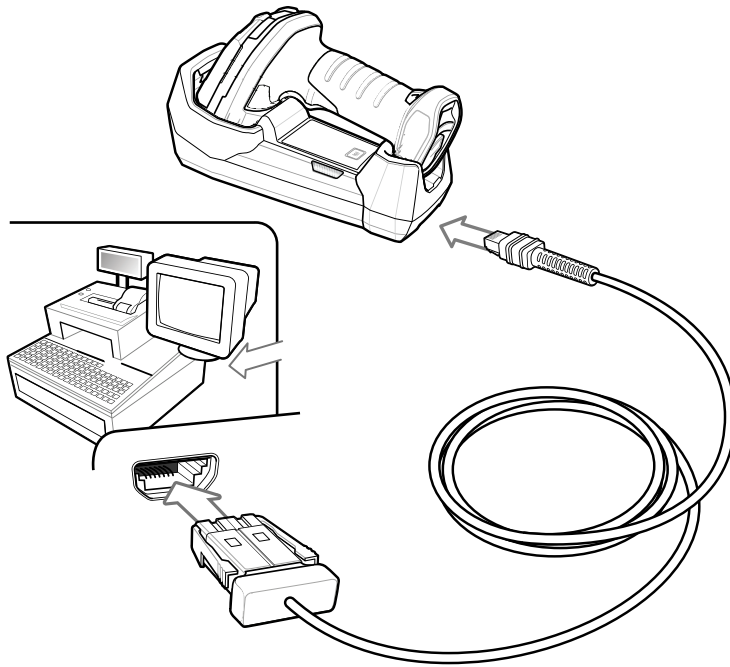

Figure 11-1 IBM Direct Connection to DS3678
- ✓ **NOTE** Interface cables vary depending on configuration. The connectors illustrated in Figure 11-1 are examples only. The connectors may be different from those illustrated, but the steps to connect the cradle remain the same.